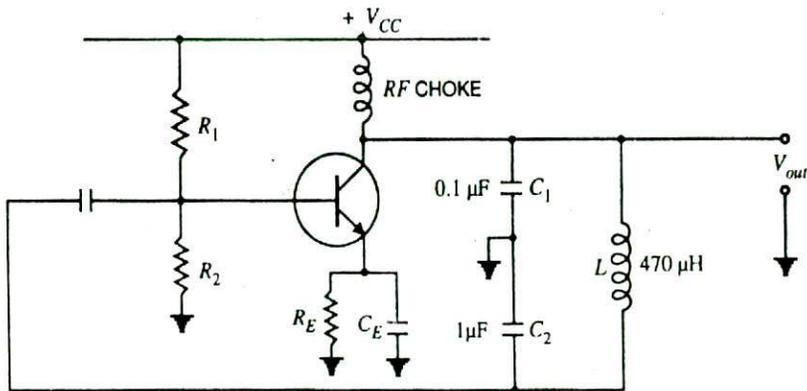

Fig. 16.24
1. Figure 16.24 shows the Colpitt's oscillator. Determine the (i) operating frequency and (ii) feedback fraction. [(i) 24.5 kHz (ii) 0.1]
3. For the Colpitt's oscillator shown in Fig. 16.24,  $C_1 = 750 \text{ pF}$ ,  $C_2 = 2500 \text{ pF}$  and  $L = 40 \mu\text{H}$ . Determine (i) the operating frequency and (ii) feedback fraction. [(i) 1050 kHz (ii) 0.3]